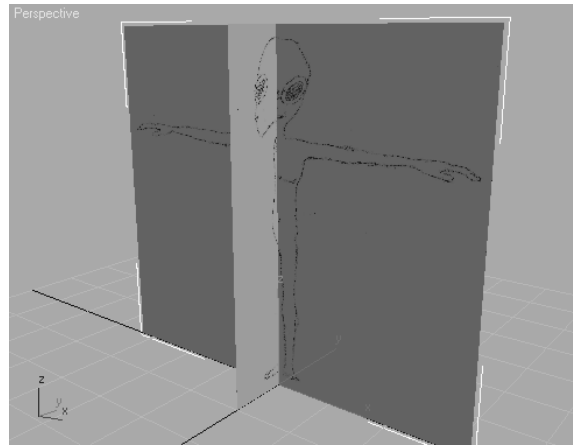

Figure 6.2
10. Select the narrower box and click the Assign Material to Selection button. Your Perspective viewport should look like Figure 6.2. If the images do not appear in the viewport, right-click on the viewport's title and choose Smooth + Highlights from the pop-up menu to change the viewport rendering mode.